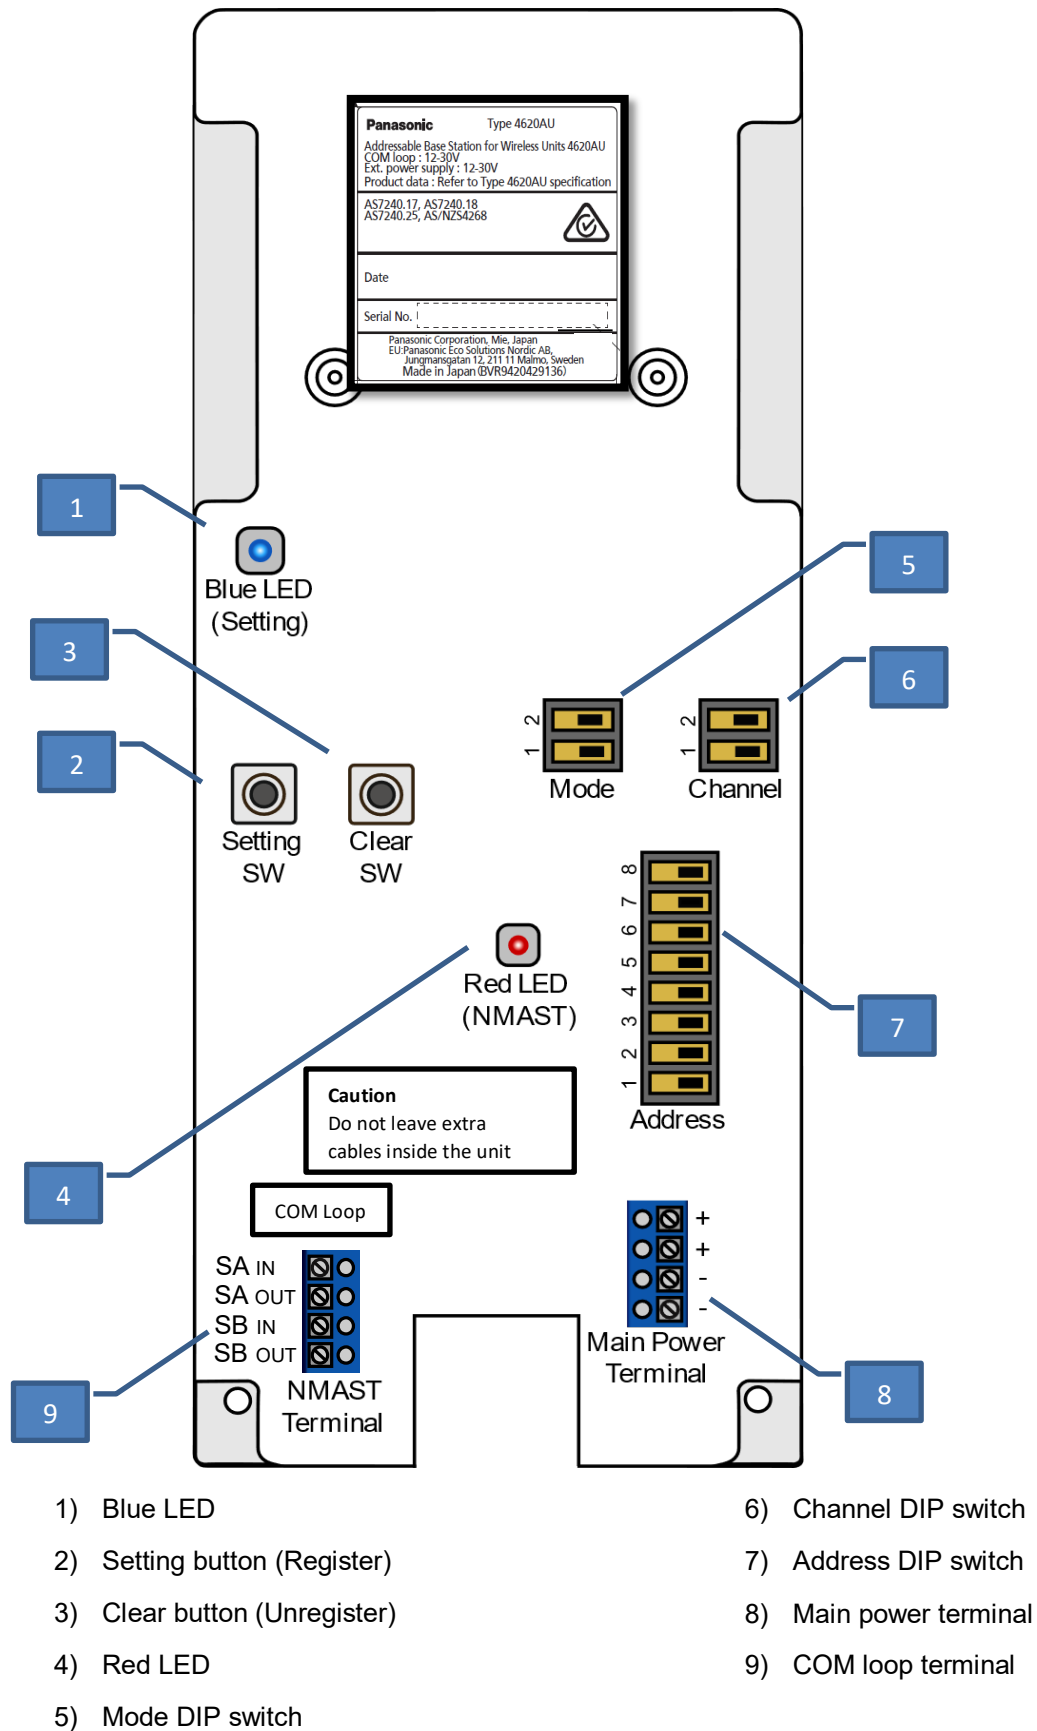

Figure 10 Wireless Base Station
Connect Base station 4620 to 24Vdc. See Figure 10, Main power terminal (8)
Set the Transmission channel on Base station. See Figure 10, Channel DIP (6)
Set the Mode on Base station to 'Setting'. See Figure 10, Mode DIP (5)
Set the Address on Base station. See Figure 10, Address DIP (7)
Press and hold the Setting button in the Base Station. The blue LED turns on. See Figure 10, Blue LED (1) and Setting button (2)
While holding the 'Setting button' in the Base Station, press the 'Register button' on the Wireless Detector. See Figure 10, Setting button (2) and Figure 10, Register button (3)
Step 19: Return the Mode DIP to Normal mode on the Base Station, see Figure 10 and on the detectors, see Figure 14.